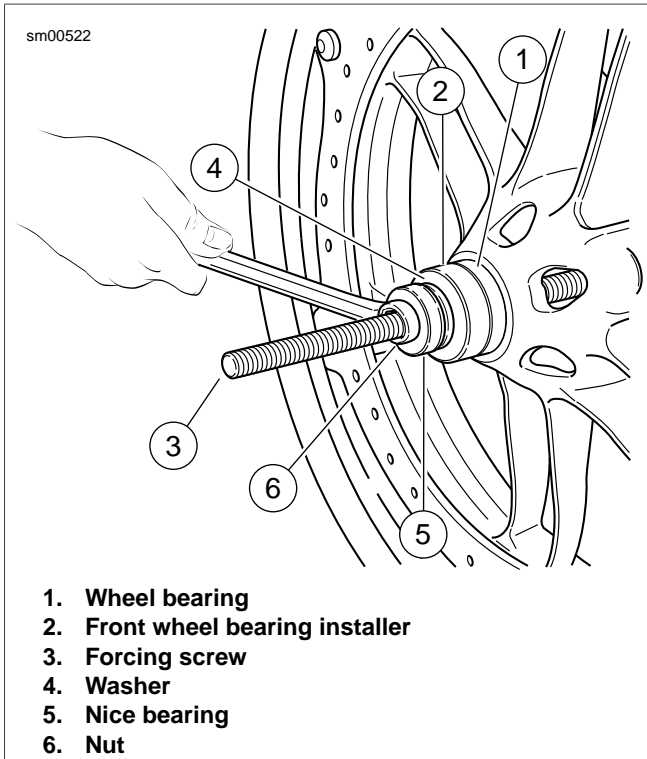

Figure 2-15. Install the Bearing
11. See Figure 2-15. Insert a **new** wheel bearing (1) squarely into the hub, with the lettered side facing out (away from the wheel).
12. Slide the FRONT BEARING INSTALLER (Part No. B-43993-9) (2) onto the forcing screw (3), with the smaller diameter toward the bearing bore.
13. Install a washer (4), Nice bearing (5) and nut (6) onto the forcing screw (3).
14. See Figure 2-15. While holding the forcing screw (3), tighten the nut (6) until the bearing contacts the spacer.